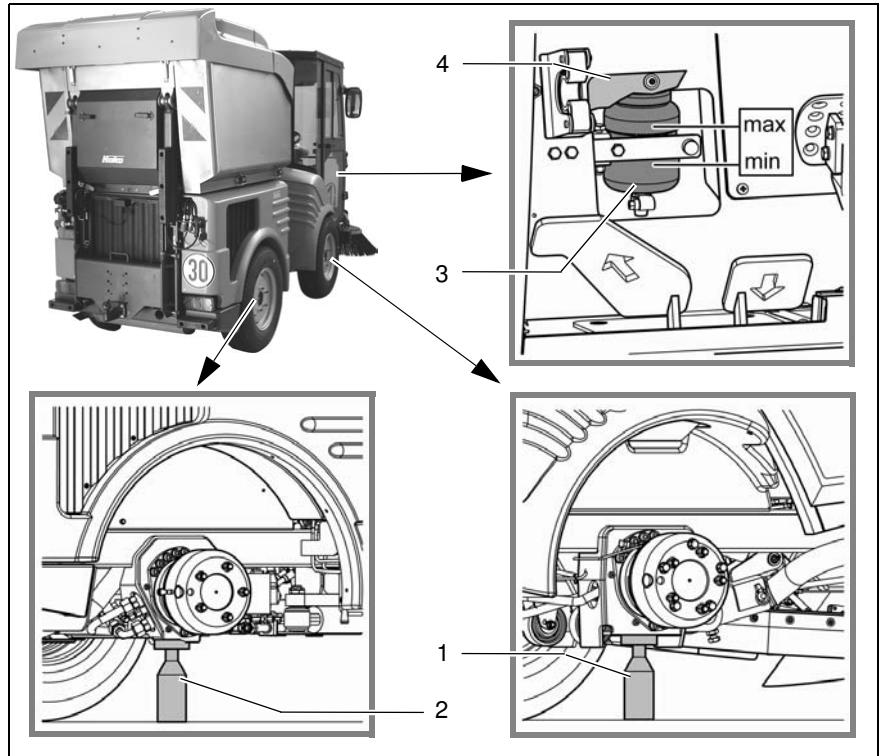

Fig.57
3. Apply the jack safely to the jacking point (Fig. 57/1) or (Fig. 57/2).
The operator has to check the effectiveness of the braking system every day before using the equipment. Check the level in the braking fluid reservoir (Fig. 57/2) after every 250 hours of operation and, if necessary, top up. The brake fluid reservoir is located below the driver seat.
1. Remove the cover plate (Fig. 57/3) below the driver's seat.